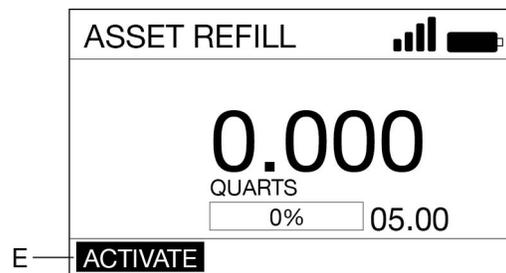

FIG. 40
6. Press ENTER to select ACTIVATE (FIG. 40).